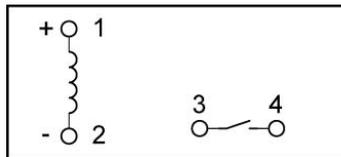

**Figure 15: Flyback Diode D1 across a DC Driven Relay Coil**
- If current flow through a relay coil is suddenly interrupted, the coil will produce a very large voltage spike in the reverse direction of the applied voltage. To handle these reverse voltage spikes, place a transient suppressor diode (sometimes called a flyback diode) across the relay's coil as shown in Figure 15.